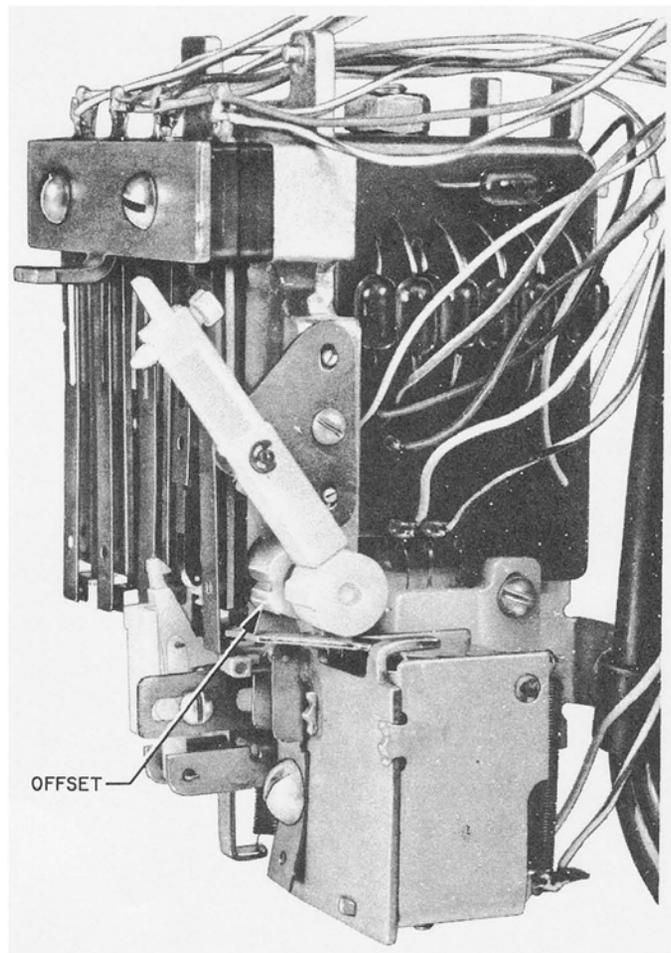

Fig. 4 – Totalizer, Side View
4.03 Example: If totalizer were set for 10-cent rate, totalizer would step twice. Offset on the right end of the shaft (Fig. 4) would then operate springs T1 and dial tone would be heard.